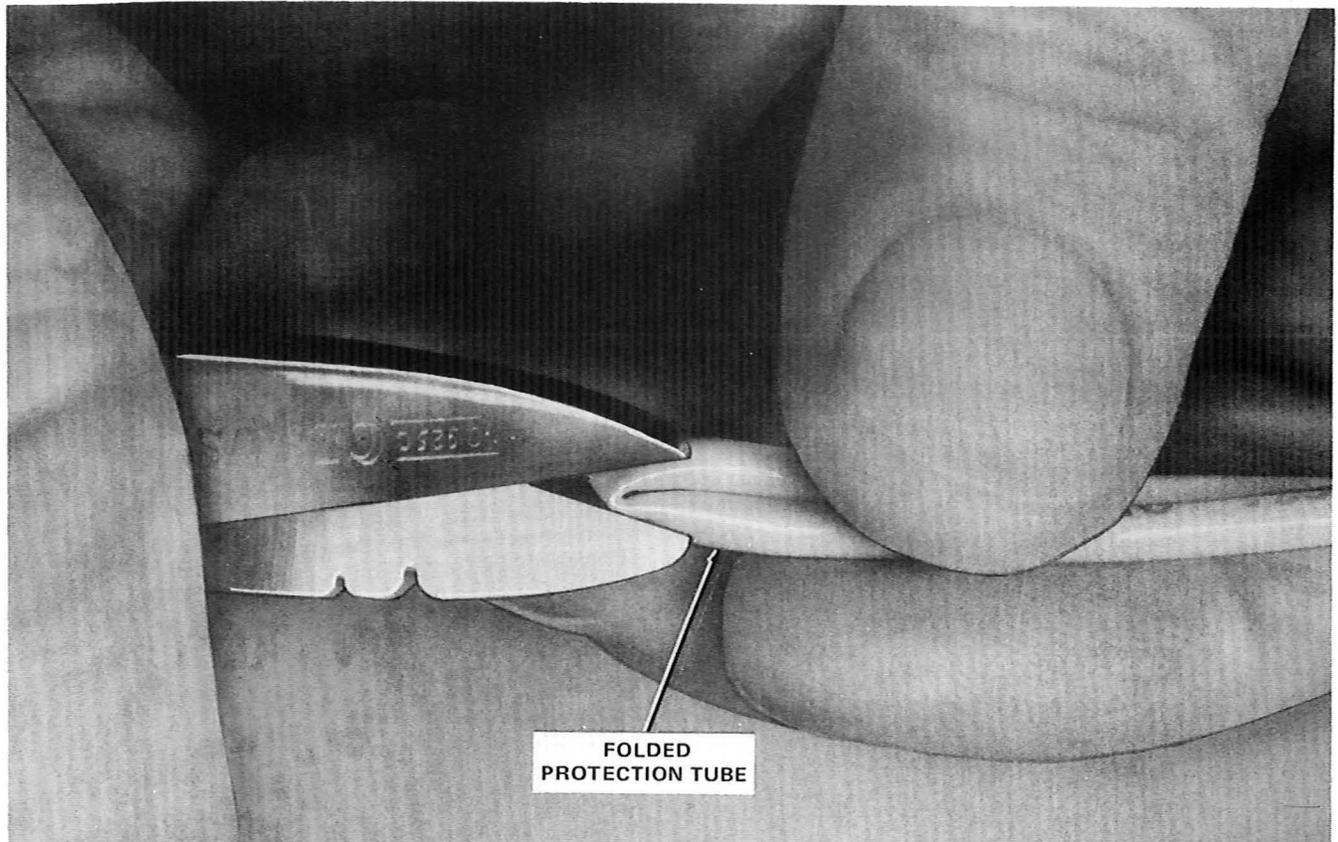

Fig. 60—Making an Opening in Protection Tube
8.10 Fold the protection tube 3 inches from the end and (using scissors) cut off the corner to make an opening in the tube, as shown in Fig. 60.